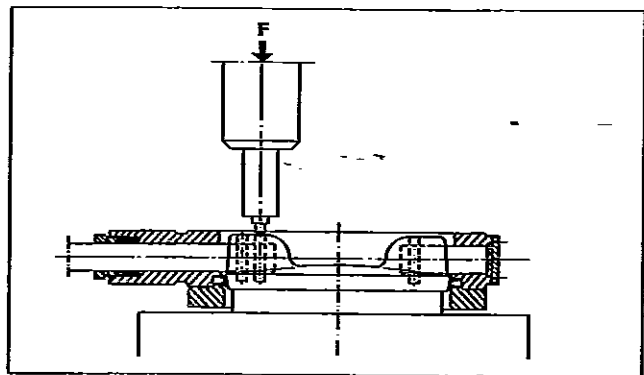

Fig. 16. Pressing the pins
- Support the disc well in a horizontal position during mounting of the pins. Push the new pins into the holes and press them in a press to final form (see Fig. 16). Use a smaller tool than the pin diameter. See table 5 for forces.